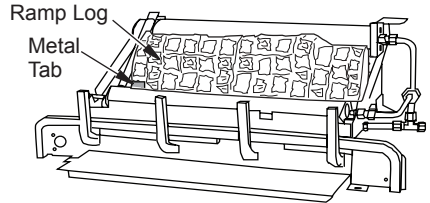

Figure 26 - Installing Fiber Ramp Log
- Place fiber ramp log in center of chassis as shown in **Figure 26**. The fiber ramp log can be identified by the shape and much lighter weight when compared to the other logs. The log must sit flat on the black sheet metal and behind the left metal tab as shown. Make sure the side marked "BOTTOM" is setting down.